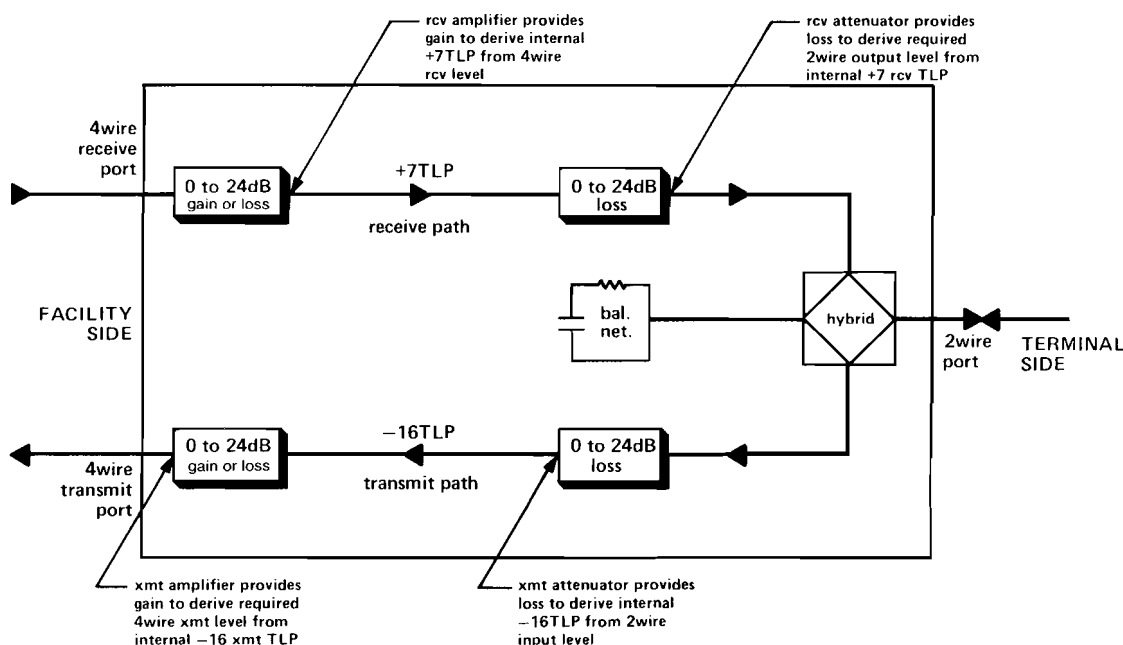

figure 6. Level coordination in the 6164X
3.13 Because internal levels of +7TLP in the receive path and -16TLP in the transmit path must be maintained regardless of external levels, two level control circuits are present in each path, as shown in figure 6.